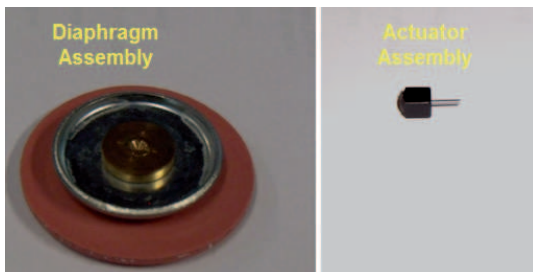

Figure 73 - Diaphragm and Actuator Assemblies
4. Remove and discard the diaphragm assembly and the actuator assembly (Figure 73).